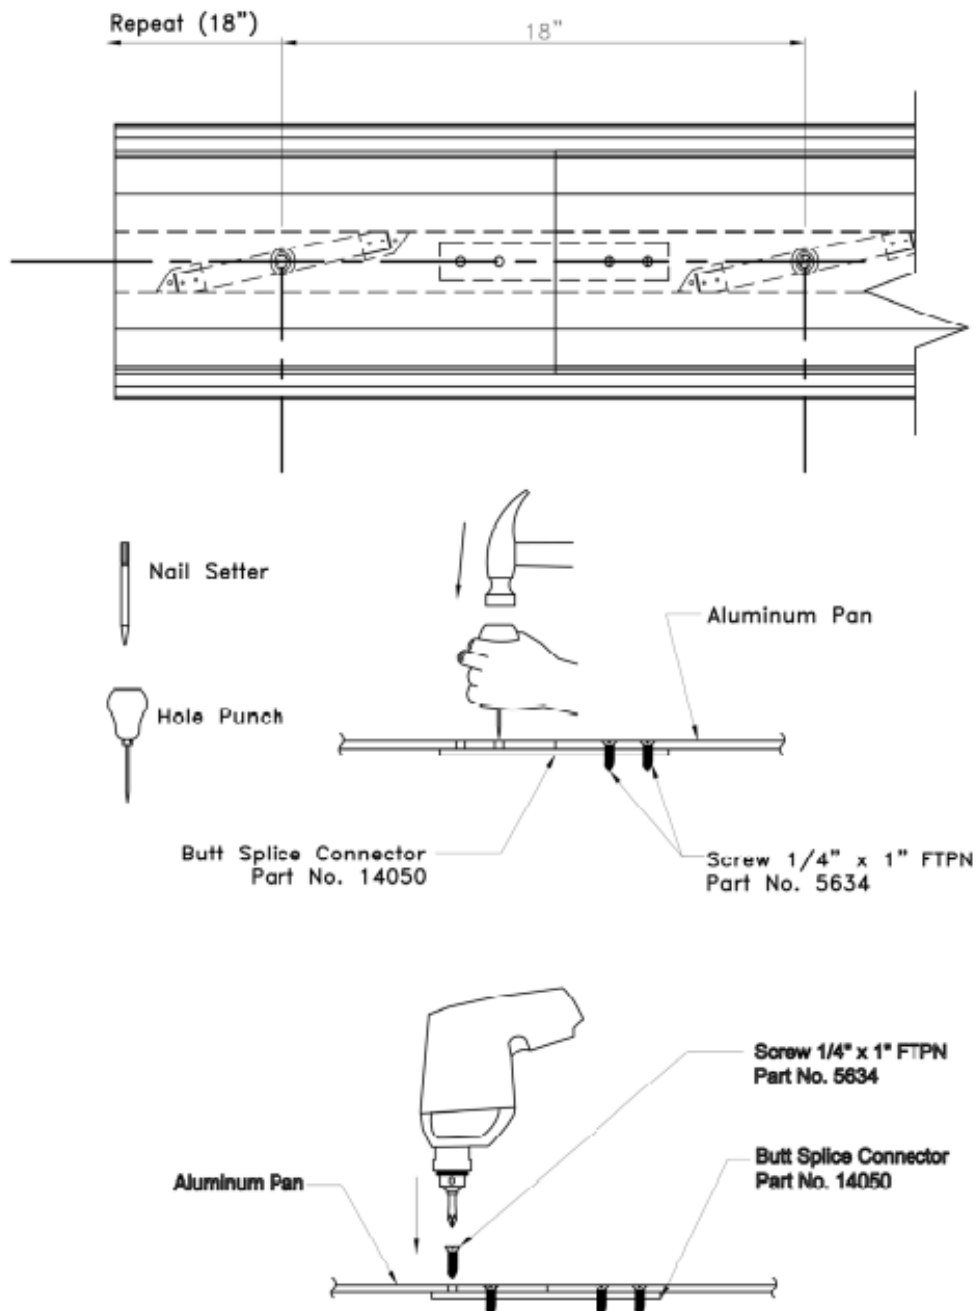

FIGURE 10
10. Using the splice connector holes in aluminum pan as a guide, firmly tap in guide marks into the aluminum splice connector below utilizing either a nail setter or hole punch. Predrill 3/16" dia. Pilot hole in connector. Use self-tapping screw (Part No. 5634) to complete splicing of pan system together. Tighten seismic-centering bar bolts in newly spliced aluminum pan section. **SEE FIGURE 10**